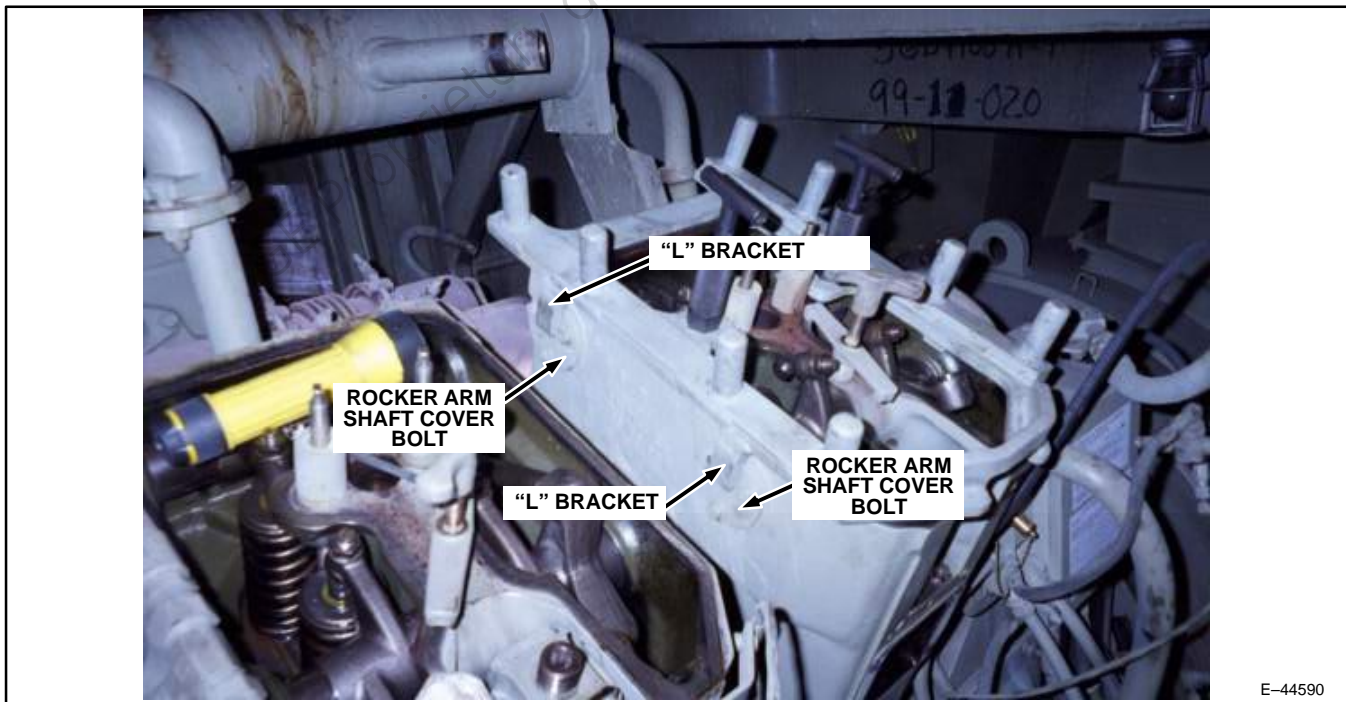

Figure 3. Properly Position TESCO Air Motor Support Bracket.
- b. Ensure all four “L” brackets are positioned inside rocker arm shaft cover bolts (Figure 3).